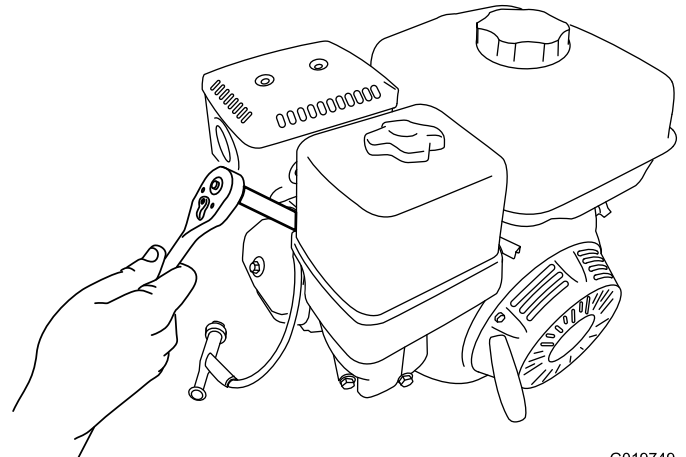

Figure 29
5. Rotate the spark plug counterclockwise using a 20 mm (13/16 inch) spark-plug wrench to remove the plug and sealing washer (Figure 29).
2. Rotate spark plug clockwise using a 20 mm (13/16 inch) spark-plug wrench until the plug and sealing washer are seated (Figure 29).